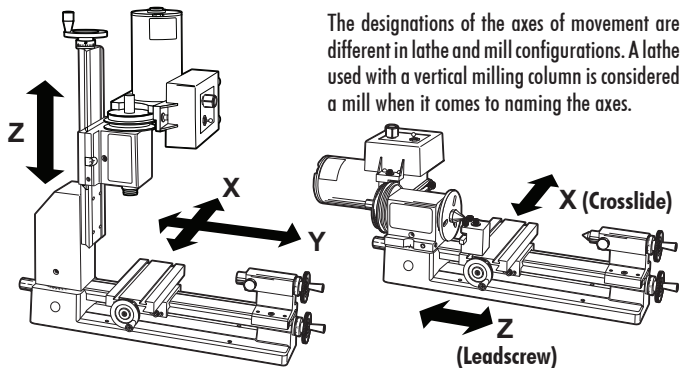

FIGURE 1A—Installing the new thrust collar on the crossslide screw.
4. Using a 3/32" hex wrench, remove the 5-40 screw holding the thrust collar over the crossslide and remove the collar. (See Figure 1A.) Use a 1/8" hex wrench to remove the countersunk screw in the top of the lathe bed and a 5/32" hex wrench to remove the socket head cap screw under the lathe base so that the collar can be removed from the leadscrew. (See Figure 1B.)